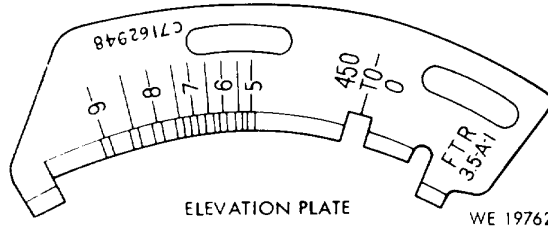

Figure 2-6. Sighting--use of elevation plate and reticle pattern.
(1) The target may be any point on distant terrain, 1,500 yards or more from the launcher.
(2) Boresighting notches appear on the rim of the muzzle deflector of the launcher (spaced 90 degrees apart). Install two lengths of string as cross hairs across the muzzle, locating them in the bore sighting notches on the rim of the muzzle deflector. Remove the wooden disk, which has a $\frac{1}{8}$ -inch hole drilled in the center, from the ammunition container and insert it in the rear of the launcher as a boresight plug. Sight through the hole in the plug and aline the launcher so that the distant target appears exactly in the lower right quadrant, with the top of the target touching the horizontal cross hair and the left side of the target touching the vertical cross hair. The launcher must be set firmly in this position.
(3) Set the indicator arm at "0" on the elevation plate, and sight through the reflecting sight assembly. If the image of the target is not touching the "0" horizontal lead line and the left side of the target is not touching the vertical line, the reflecting sight assembly is out of alinement. To aline vertically loosen the elevation plate screws and adjust the elevation plate to the desired position. To aline laterally, loosen the hinge stud nut, and turn the hinge stud to the correct position. When correctly alined, the target should be centered in both the reflecting sight assembly and the launcher bore.
b. *Sighting.* (Fig. 2-6.) To fire at any target between 0 and 450 yards range, set the indicator arm at the mark on the elevation plate which reads 0 to 450. Select the horizontal line with the desired range and use it for aiming. If the target has a range greater than 450 yards, set the indicator arm on the desired range and use the zero horizontal line for aiming.